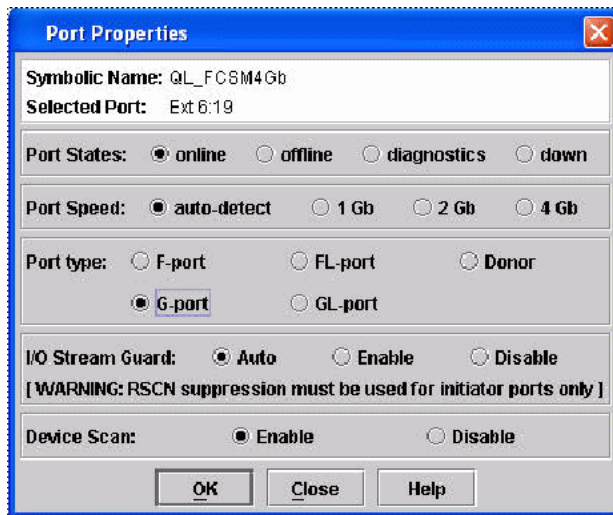

Figure 7-17 Port Properties window
6. From the Port Properties dialog box (Figure 7-17), verify the following settings are true for port 19: